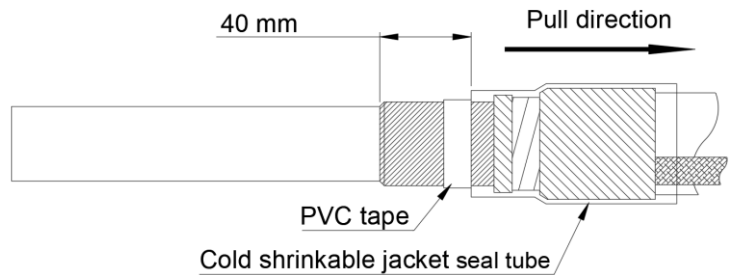

Fig.7
- Mark semi-conductive shield for 40mm on the PVC tape as shown in Fig.7.